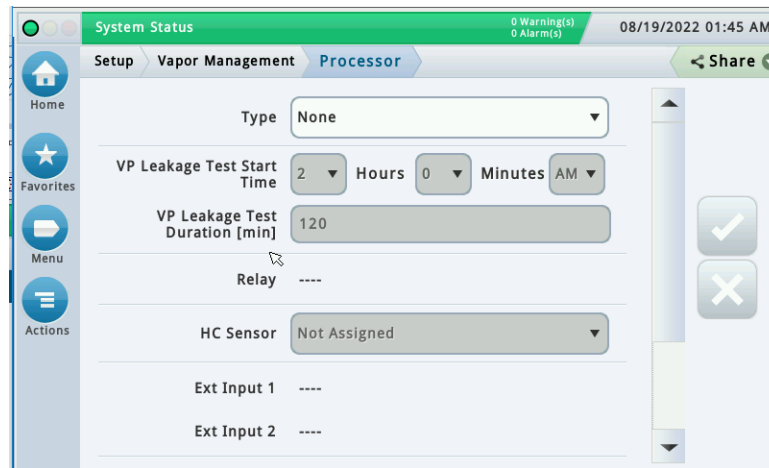

Figure 39. Vapor Management Processor Setup Screen
2. Ensure Type is selected as None (default)(see Figure 39).